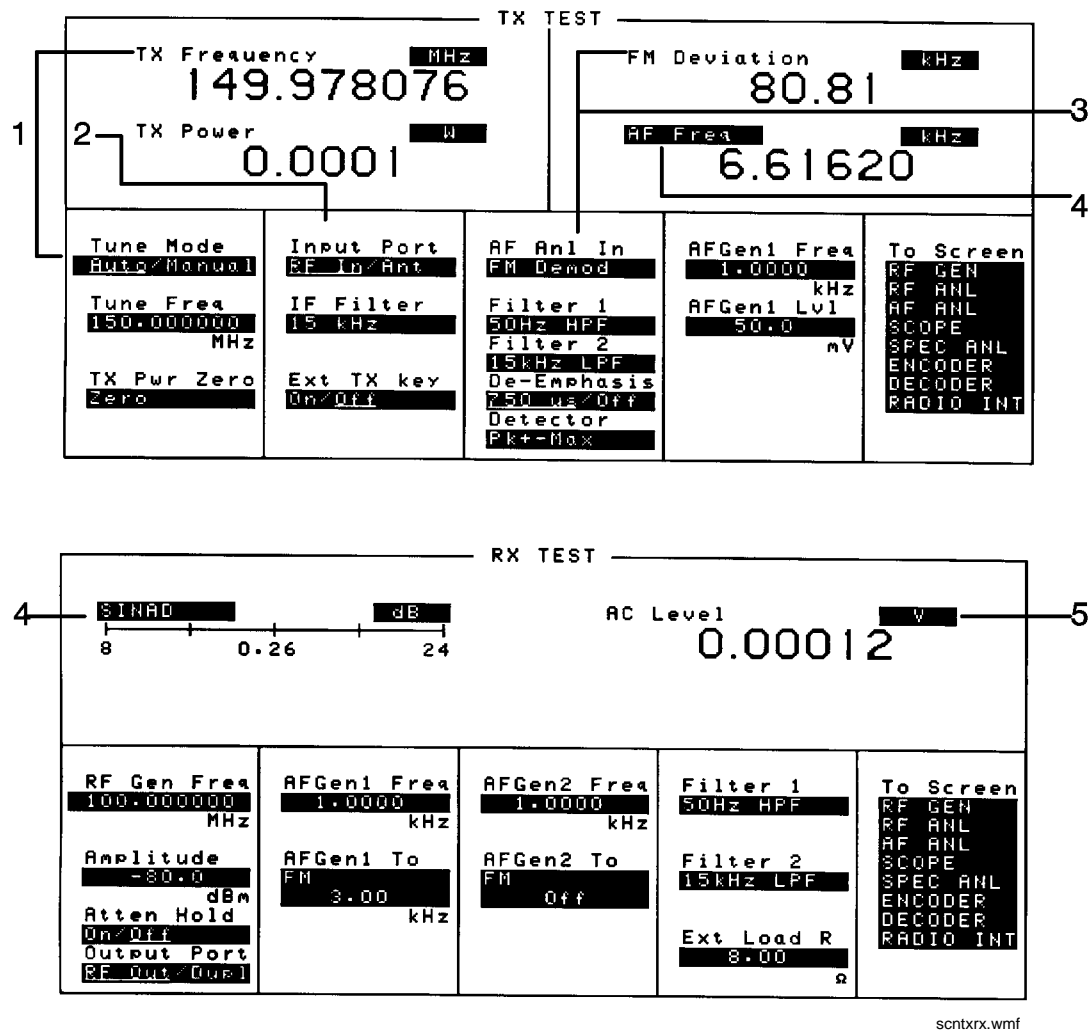

Figure 8 Where To Access Measurements
TX Frequency is displayed when **Tune Mode** is set to **Auto**. (Refer to item (1) in figure 8 on page 58.)
TX Freq Error is displayed when **Tune Mode** is set to **Manual**. (Refer to item (1) in figure 8 on page 58.)
TX Power is only measured and displayed here when the **Input Port** is set to **RF In** (Refer to item (2) in figure 8 on page 58). If **Ant** (antenna) is selected, the measurement is replaced by four dashes (- - - -).
The **AF An1 In** setting determines the AF Analyzer's input and the measurement displayed in the top-right corner of the measurement area (see table 4). These measurements are available in the TX TEST, DUPLEX TEST, RF GENERATOR, RF ANALYZER, and AF ANALYZER screens. (Refer to item (3) in figure 8 on page 58.)
- a. AC Level is also measured in the RX TEST screen, but always uses the AUDIO IN connector as the input. (Refer to item (5) in figure 8 on page 58.)
Selecting the currently-displayed measurement causes the **To Screen** menu to be replaced by a list of measurement choices. Select the new choice to replace the old measurement. These measurements are available in the RX TEST, TX TEST, DUPLEX TEST, RF GENERATOR, RF ANALYZER, and AF ANALYZER screens. (Refer to item (4) in figure 8 on page 58)
AF Power is measured in the RX TEST screen by specifying the external load resistance, **Ext Load R**, and changing the unit of measure for the **AC Level** measurement to W (Watts), mW, or dBm. (The milliwatt (mW) unit is selected by pressing SHIFT, ENTER) Refer to item (5) figure 8 on page 58.